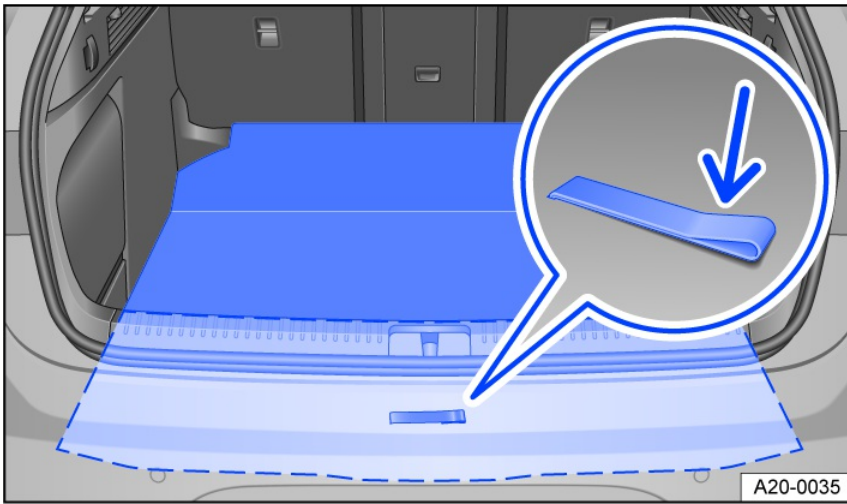

Fig. 138 In the luggage compartment: opening the luggage compartment floor.
1. Lift the luggage compartment floor onto the loop *fig. 138* (small arrow).
1. Guide the luggage compartment floor downward by the loop *fig. 138* (small arrow) and lay it down in the luggage compartment.
1. Hold the loop on the luggage compartment floor *fig. 138* (small arrow) and remove the luggage compartment floor from the luggage compartment.
1. Place the luggage compartment floor carefully back into the luggage compartment with the loop on the upper sider *fig. 138* (small arrow).